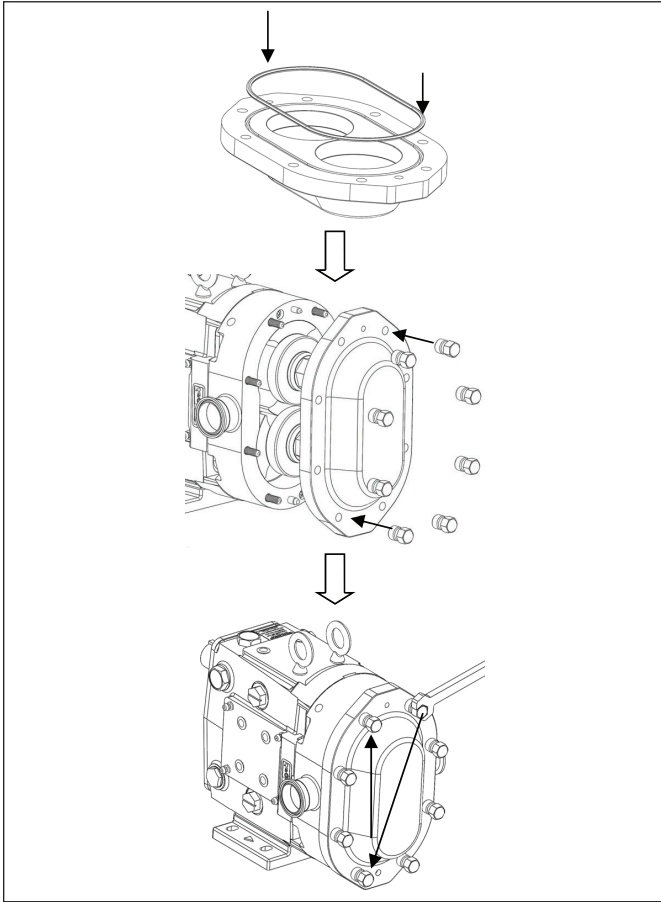

Figure 50. Installing Cover Assembly
3. Install the new cover o-ring and slide the cover over the studs making sure that the dowels in the body are aligned with the correct dowel holes in the cover (Figure 50). Visually inspect to ensure that the cover o-ring remained in place. Turn the cover nuts (clockwise) by hand and fully tighten them by using the appropriate wrench. Tighten the rotor nuts in an opposing manner as seen in Figure 50, so that the cover is evenly tightened to the body.